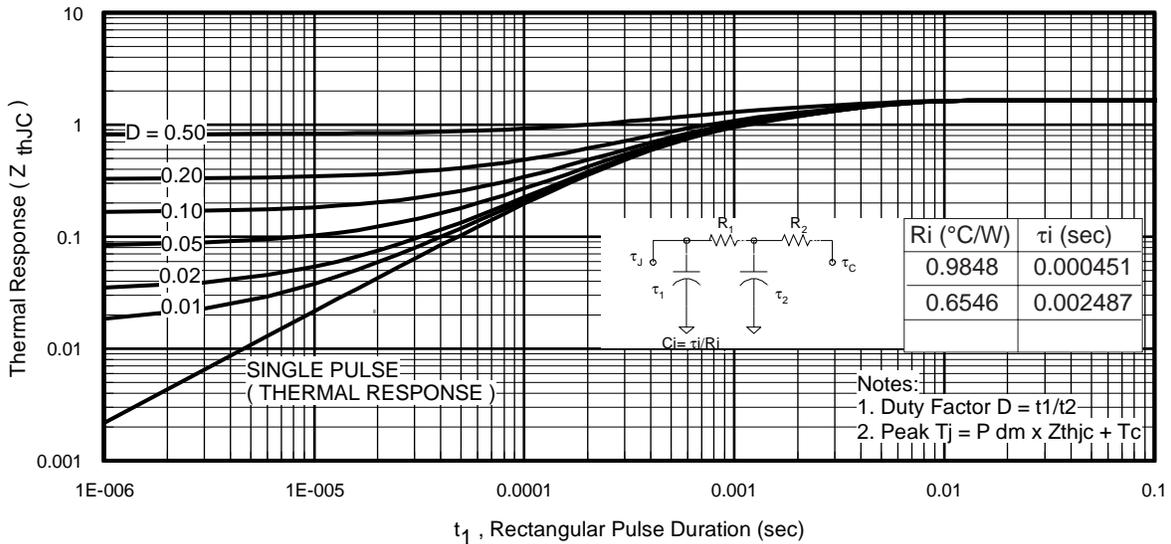
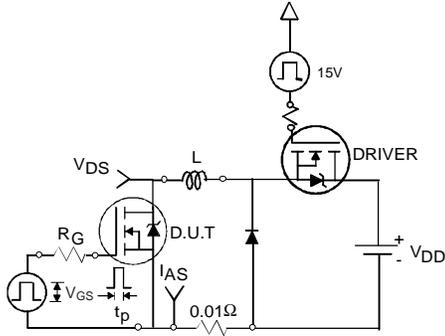

Fig 11. Maximum Effective Transient Thermal Impedance, Junction-to-Case
Fig 12a. Unclamped Inductive Test Circuit
- ① Repetitive rating; pulse width limited by max. junction temperature. (See fig. 11).
- ② Limited by T_{Jmax} , starting $T_J = 25^\circ\text{C}$, $L = 0.11mH$, $R_G = 25\Omega$, $I_{AS} = 37A$, $V_{GS} = 10V$. Part not recommended for use above this value.
- ③ $I_{SD} \leq 37A$, $di/dt \leq 920A/\mu s$, $V_{DD} \leq V_{(BR)DSS}$, $T_J \leq 175^\circ\text{C}$.
- ④ Pulse width $\leq 1.0ms$; duty cycle $\leq 2\%$.
- ⑤ $C_{oss\ eff.}$ is a fixed capacitance that gives the same charging time as C_{oss} while V_{DS} is rising from 0 to 80% V_{DSS} .
- ⑥ Limited by T_{Jmax} , see Fig.12a, 12b, 15, 16 for typical repetitive avalanche performance.
- ⑦ This value determined from sample failure population. 100% tested to this value in production.
- ⑧ This is applied to D²Pak, when mounted on 1" square PCB (FR-4 or G-10 Material). For recommended footprint and soldering techniques refer to application note #AN-994.
3. Equation below based on circuit and waveforms shown in Figures 12a, 12b.
$Z_{thJC}(D, t_{av})$ = Transient thermal resistance, see figure 11)